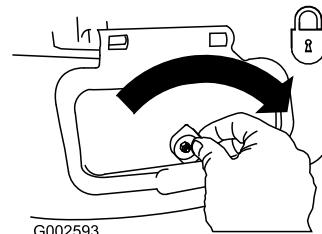

Figure 31
**Important:** Lock the side-discharge door after you close it (Figure 31).